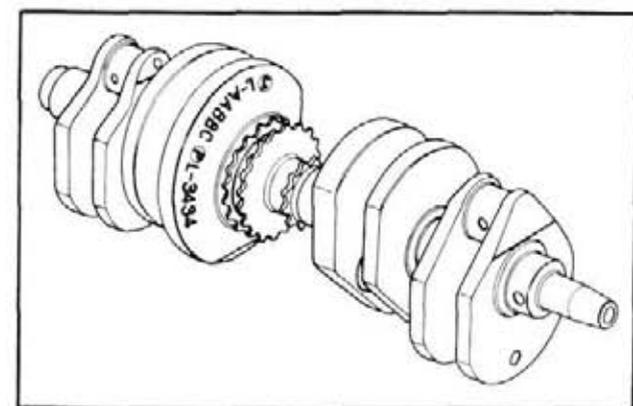

Fig. 3-81
The size marks of crankshaft journals were changed from \angle (I) \square (RO) \wedge (HA) and \equiv (NI) to A, B and C. These marks are stamped on the side of the crank weight on the drive sprocket side together with the crankpin size marks. (Fig. 3-81)
- Numbers (3, 4, 5) are stamped on the side surface of the crank weight, this indicates the crank pin size. (Fig. 3-81)